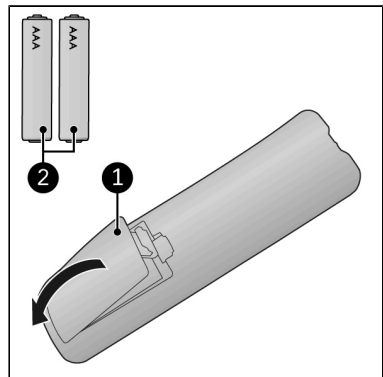

Figure 46.
1. Remove the battery cover (Figure 46, pos. 1).
2. Insert two batteries (AAA 1.5 V) (Figure 46, pos. 2) as indicated in the battery compartment. Make sure to insert the batteries correctly.